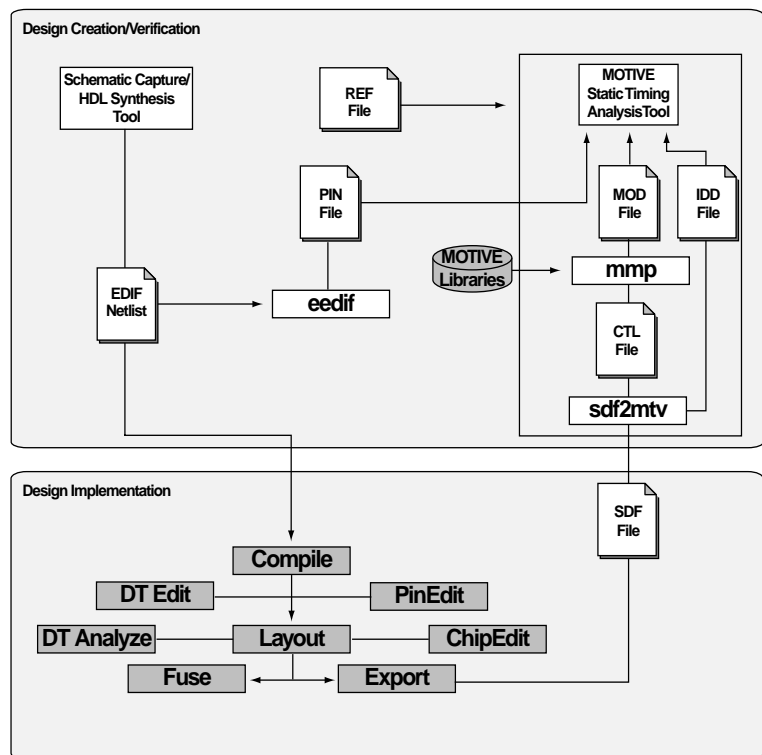

Figure 2-1. Actel-MOTIVE Static Timing Analysis Design Flow
Figure 2-1 shows the design flow for performing static timing analysis on an Actel design using the MOTIVE and Designer Series software1.
1. Actel-specific utilities/tools are denoted in grey in Figure 2-1.